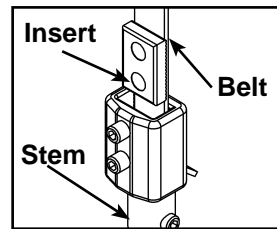
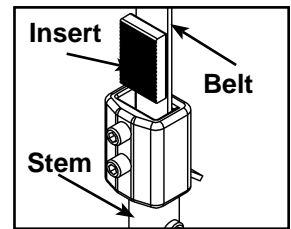

Figure 13A
Figure 13B
- D. Verify belt and insert are installed properly, as shown in Figure 13A. **NOTE:** Do not install the insert backwards as shown in Figure 13B.